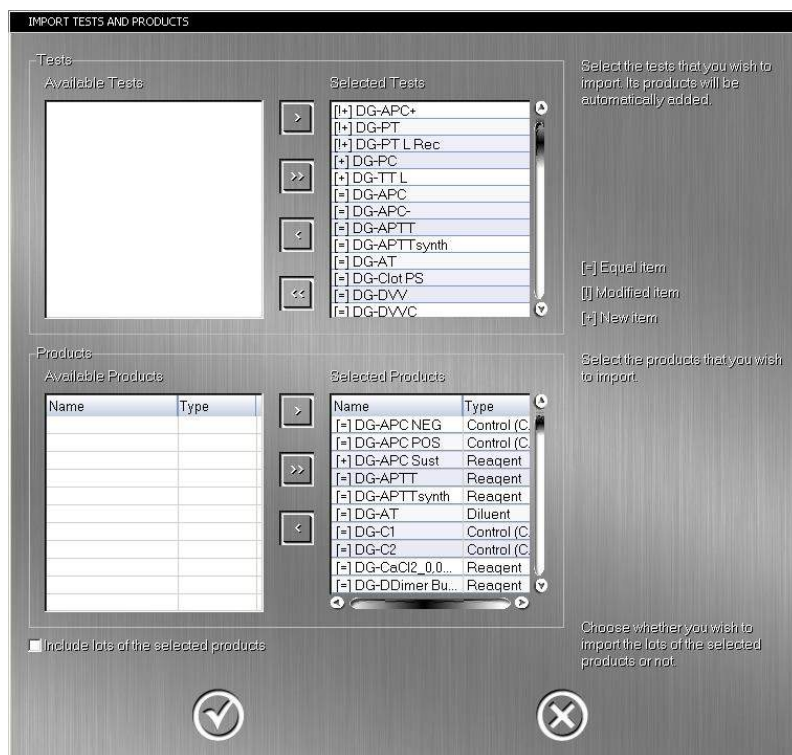

Figure 9.42. Importing New Tests and Products. Step 2
- Press the  button to select all the available tests and products (Figure 9.42). **DO NOT** choose the option “Include lots of the selected products”.